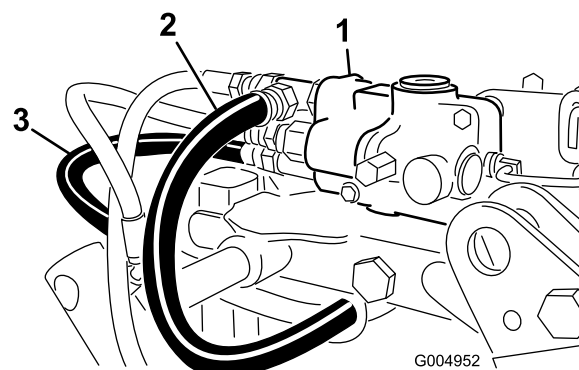

Figure 90
35. Route and connect the hydraulic pressure and tank hoses to the valve (Figure 90).